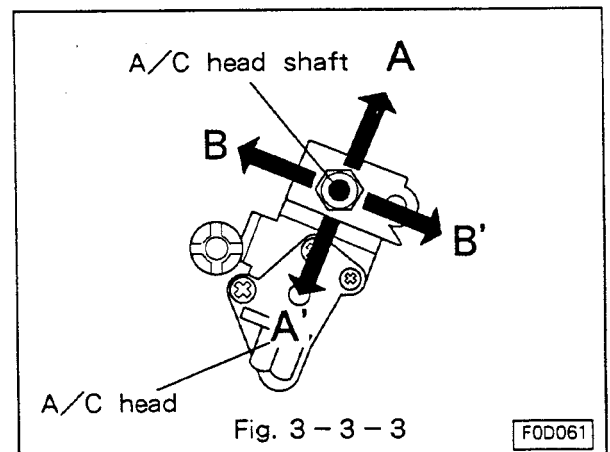

Fig. 3-3-3
- Apply a force lightly to the A/C head shaft in the direction of A and A' of the arrow shown in Fig. 3-3-3 to make certain that the audio output level remains at maximum level and does not change.
- If the level changes, turn the nut A (height adjusting) so that the audio output level shall be maximum. Apply a force lightly to the A/C head shaft in the direction of B and B' of the arrow shown in Fig. 3-3-3 and adjust so that the sound output level shall be maximum.